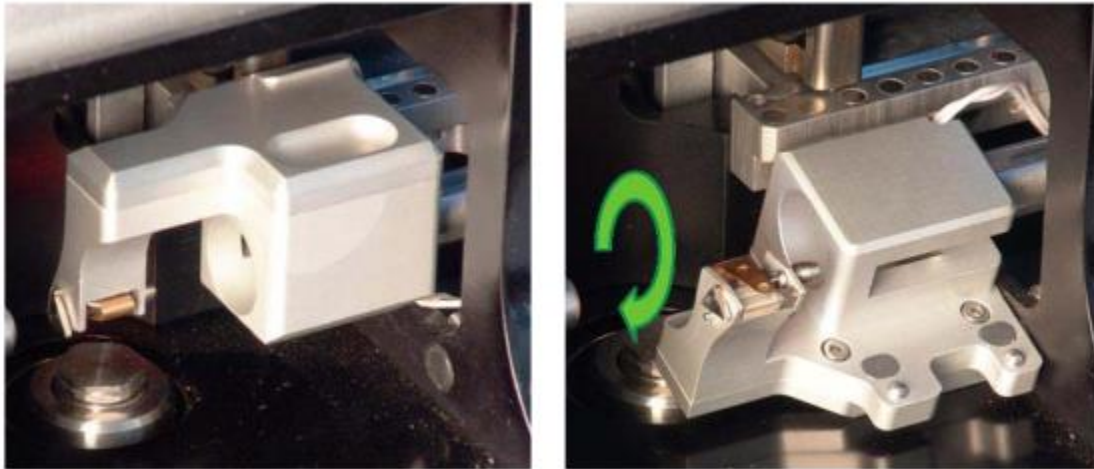

Figure 4: Rotating the AFM head to allow probe instillation
- With the head inserted the AFM probe needs to be installed this is done by rotating the head toward the operator (Figure 4).